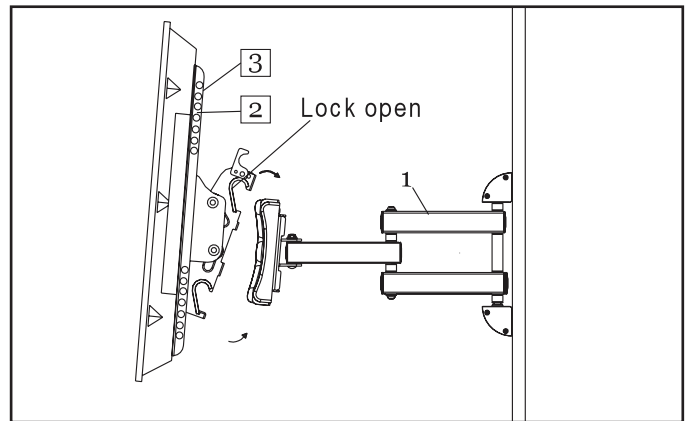

Fig. 5b
3. Hook the top of brackets over the top bar of the wall mount (Fig. 5b).